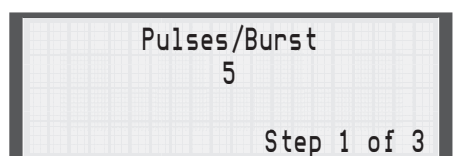
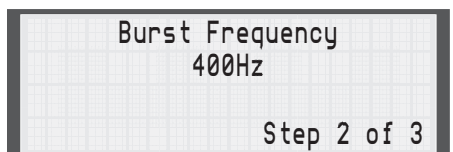
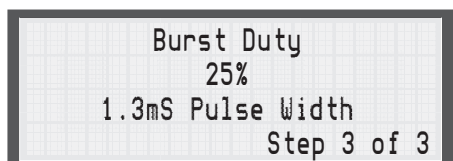
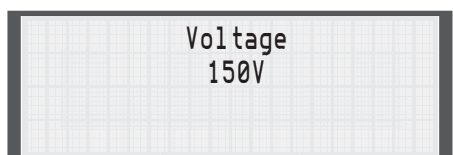

Fig. 5.17
Fig. 5.18
Fig. 5.19
Fig. 5.20
4. Press the Duty Cycle key and use the Arrow keys to set the desired number of pulses in the burst (Fig. 5.17). Press the Enter key. Use the Arrow keys to set the burst frequency (Fig. 5.18). Press the Enter key. Use the Arrow keys to set the duty cycle of the pulse waveform, then press the Enter key (Fig. 5.19). Press the Volts key and use the Arrow keys to set the output voltage, then press the Enter key (Fig. 5.20). All three steps must be completed for any changes to be effected.